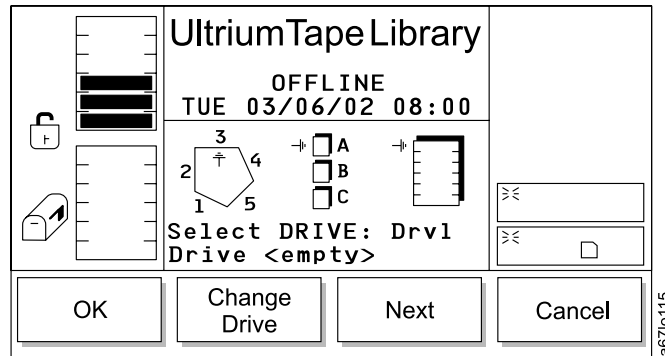

Figure 110. Change Drive Dialog
**Note:** If the chosen column element is a drive (column 3), no slot or magazine parameters are available. The current source parameter changes from column to drive and the Change Drive Dialog displays (see Figure 110 on page 107).